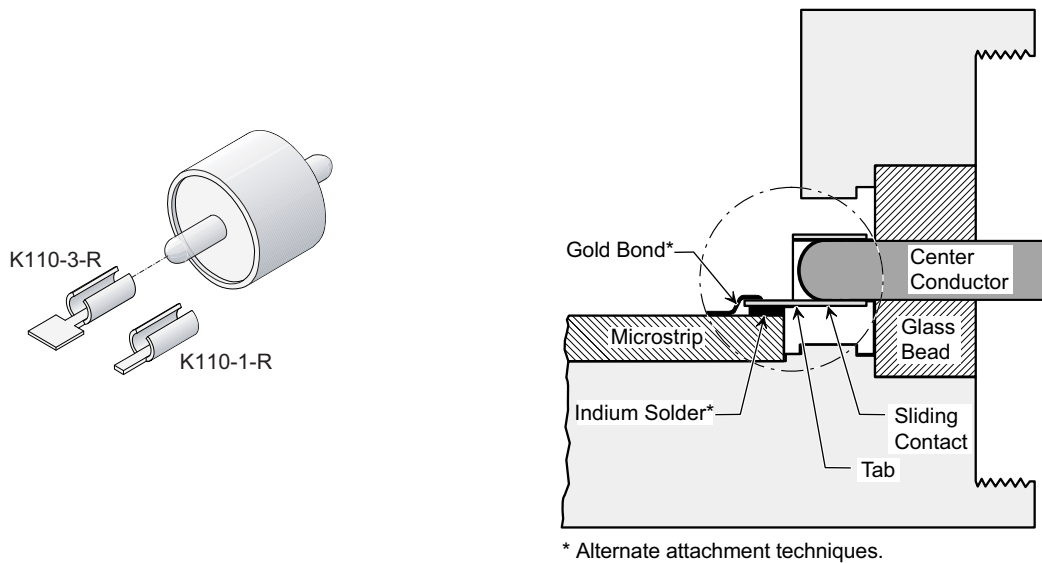

Figure 10-1. K110-1-R or K110-3-R Sliding Contact Assembly
The sliding contacts slip over the pin of the glass bead and mate with the microcircuit as shown in Figure 10-1 on page 10-2. The following is the recommended procedure for installing the sliding contacts and mating them with the microcircuit.
5. Position the sleeve as shown in Figure 10-1.